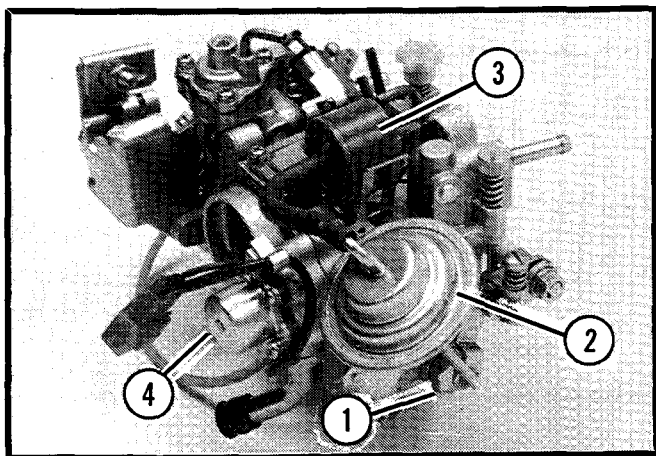

Figure 29.
2. The main jet solenoid is replaced with a jet, accessible by removing a plug in the bottom of the carburetor bowl. See Figure 29.
3. The California carburetor has a throttle positioner assembly. See Figure 29. The function of the throttle positioner is to hold the engine on high idle for a short period of time after the carburetor throttle plate is returned to idle after running at operating speeds, (2000–3600 rpm). The restrictor in the vacuum line ensures that it takes 1 to 15 seconds to return to idle speeds.
4. The California carburetor has a vent solenoid valve located on the bowl cover. See Figure 29. The function of this solenoid is to allow the fumes from the carburetor bowl to be sucked into the vacuum canister.